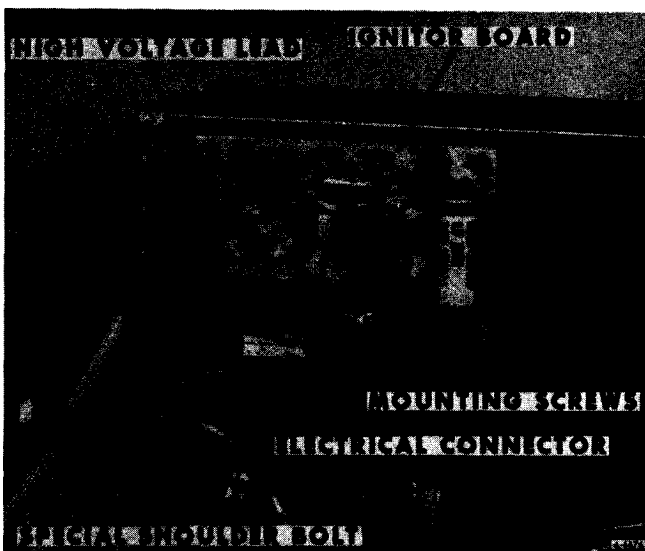

Figure 17 — Location of Ignitor Board
2. Remove special shoulder bolt (Figure 17).
2. Install four ignitor board mounting screws (Figure 17).